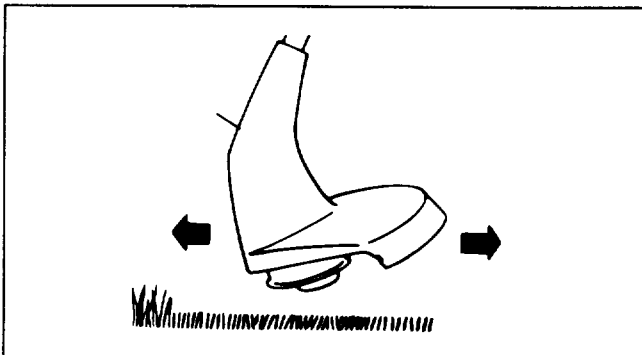

Figure 9
4. Slowly move unit in and out of area being cut, maintaining unit at desired cutting height. This can be either a forward-backward or side-to-side motion as shown in Figures 9 & 10.